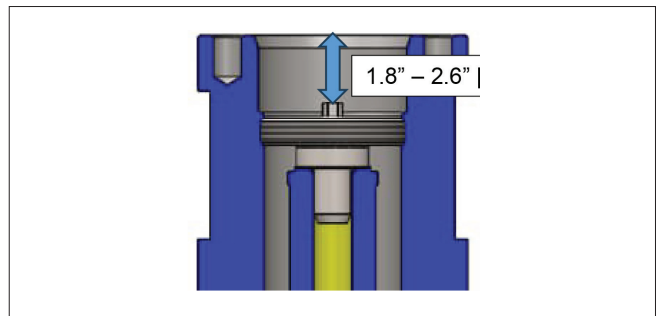

Figure 7: Filter Element and retainer inside housing.
- i. Inspect Filter Retainer and the mating thread in the Housing Filter. Ensure components are not contaminated or damaged. Lubricate contact surface of the Filter Retainer with a nickel based anti-seize compound. Turn Filter Retainer into Filter Housing so that the nozzle of Filter Retainer is fitted into the Filter Cartridge, as shown on Figure 7. **Turn Retainer by hand until a snug fit is felt then stop to prevent Filter Cartridge damage**